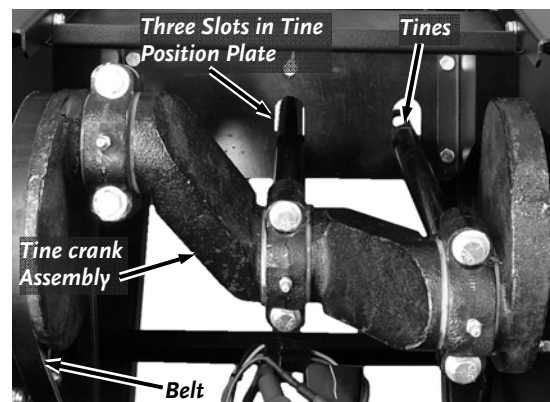

Figure 23
11. Lift the Tine Assembly with the new Belt into the Aerator Frame and rest it on the Frame Shoulders. Ensure that you insert the Tines into the slots of the Tine Position Plate (**Figure 23**).